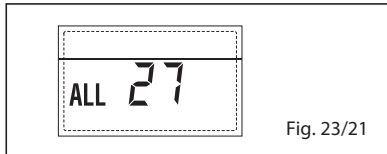

Fig. 23/21
- ANOMALIA COERÊNCIA ENTRADA (S3) SOMENTE POR SISTEMA 7 "ALL 28" (fig. 23/22)